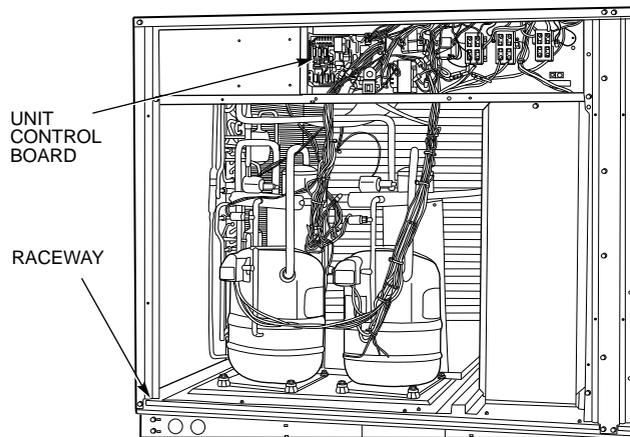

Fig. 17 — Field Control Wiring Raceway
3. Feed wire through the raceway built into the corner post to the 24-v barrier located on the left side of the control box. See Fig. 17. The raceway provides the UL (U.S.A. Standard) required clearance between high- and low-voltage wiring.